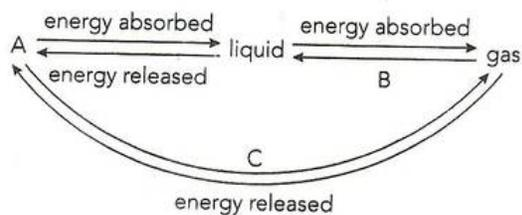

Figure 1.12: Energy changes involved in different changes of state.
- Energy is needed to overcome the forces of attraction holding the particles in position in a solid. Energy is absorbed during melting. Figure 1.12 shows how energy is involved in the different changes of state. Complete Figure 1.12 by providing labels for the positions A, B and C.